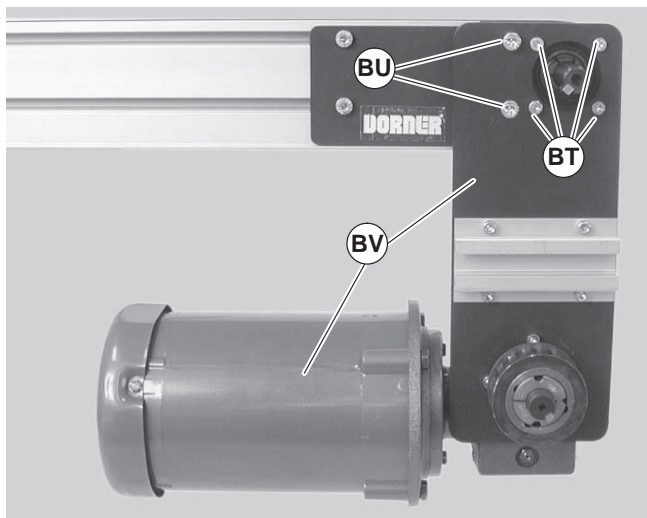

Figure 54
- e. Remove four (4) M5 mounting screws (Figure 54, item BT) and two (2) M8 mounting screws (BU).
- f. Remove gearmotor and mounting plate assembly (Figure 54, item BV).